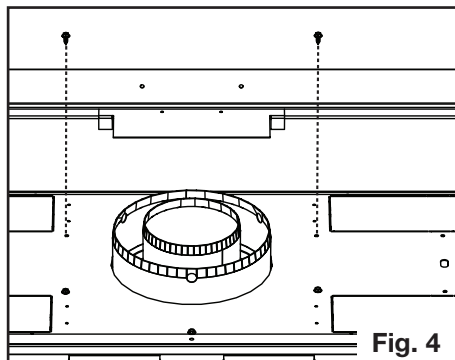

Fig. 4
4. Unscrew the fasteners as shown (Figure 4). DO NOT DISCARD FASTENERS